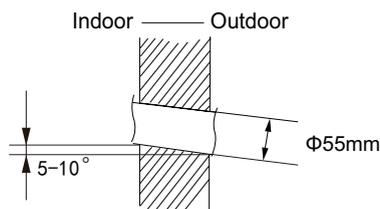

Fig.2
(2) Open a piping hole with the diameter of  $\Phi 55\text{mm}$  on the selected outlet pipe position. In order to drain smoothly, slant the piping hole on the wall slightly downward to the outdoor side with the gradient of  $5\text{-}10^\circ$ . (As show in Fig.2)